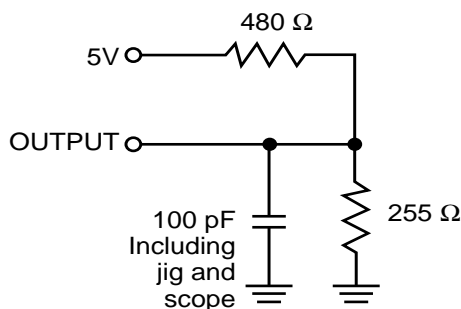

Figure 1a.
Output Load	See Figures 1a and 1b
1. Test conditions assume signal transition times of 5 ns or less, timing reference levels of 1.5V, input pulse levels of 0 to 3.0V and output loading specified in Figure 1a.
- Test conditions assume signal transition times of 5 ns or less, timing reference levels of 1.5V, input pulse levels of 0 to 3.0V and output loading specified in Figure 1a.